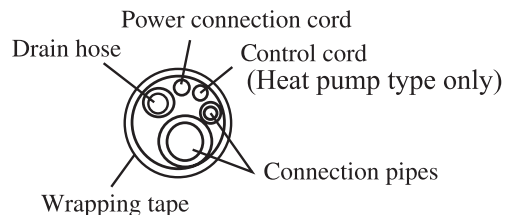

Fig.5
2. Wrap the piping and wiring and pull them through the cut-off -tailings hole (shown in Fig. 5).